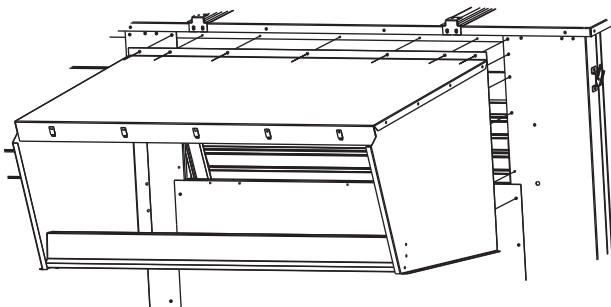

Fig. 25 — Removing Screws from the Outdoor Air Opening of Unit
8. Remove the screws on each end and along top of the outdoor air opening of unit. Set hood assembly in place and attach to unit using gasketed screws. See Fig. 25.